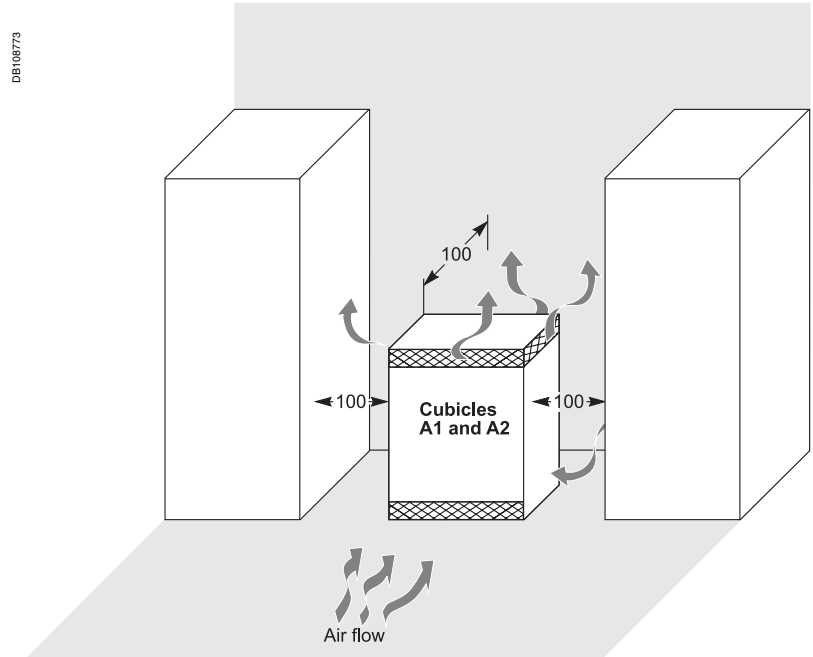

Fig. 6: cubicles A1 and A2.
- place the device so that the ventilation outlets are unobstructed: leave a space of 10 cm between the banks and the wall (see page 4, fig. 6 and 7)